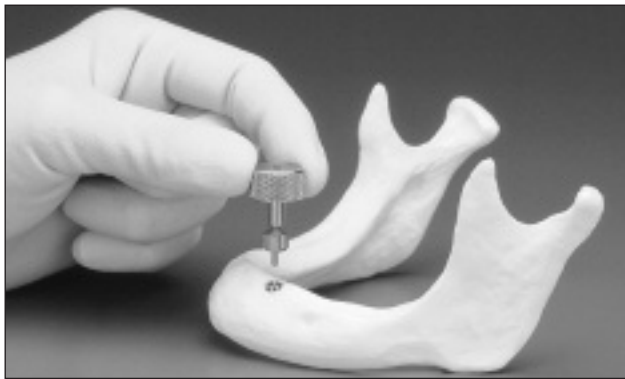

Figure 20. The Bone Contouring Tool is oriented axially parallel to the implant trajectory.
- C. When using a Manual Driver, insert the appropriate flared bone contouring that matches the diameter of the Temporary Gingival Cuff being placed. Place the tip of the Bone Contouring Tool into the internal thread of the implant body. The Bone Contouring Tool should be oriented such that it is axially parallel to the implant trajectory (**Figs. 20 and 21**). Turn the driver in a clockwise direction while applying moderate axial pressure. Continue until enough bone is removed to seat the Temporary Gingival Cuff flush with the implant interface.